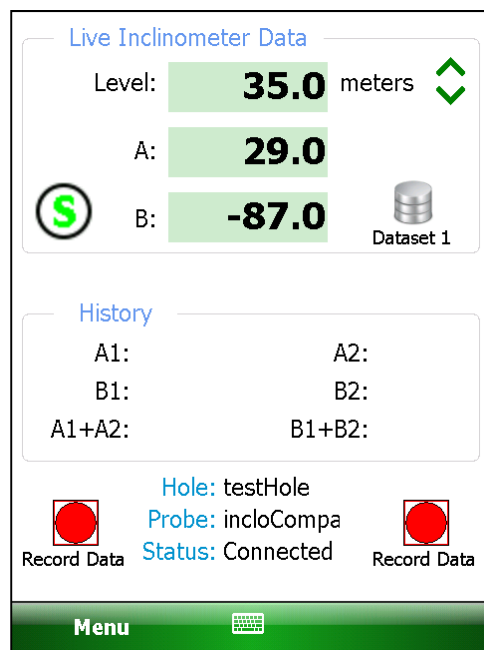

Figure 44 - Stable Indication
**Visual Only** When this stability indication is selected an icon is displayed on the Live Readings Screen, indicating whether the reading is stable or not (see Figures 44 and 45).
**Visual/Audible** When this stability indication is selected, in addition to the icon described above, an audible indication is played indicating the reading's stability or instability (See Figures 44 and 42, as well as sections 3.3.5.3 and 3.3.5.4).
When taking live readings, if the difference between two subsequent readings of the A **and** B channels are less than or equal to the “Stability Filter” then the reading will be deemed stable and, if enabled, the “Stability Indication” icon (see Figures 44 and 45) will be set accordingly.
If the “Stable Indication” (see section 3.3.5.1) selection is set to “Visual/Audible”, this parameter will be enabled and a drop-down list will display the choices of “sounds” that the HHD can make when a stable reading is achieved in the “Live Readings” screen (see Figure 44).
5. Approximately 2 seconds after the cable marker/ferrule is locked in the cable grips, (or cable hold), the system will determine that the readings are again stable and respond by setting the stability icon to its stable state  and playing the selected “Stable” sound (see Figure 44). Immediately following the stable sound, the current readings are stored, the record “beep” is heard and the level is decremented by the pre-selected interval.